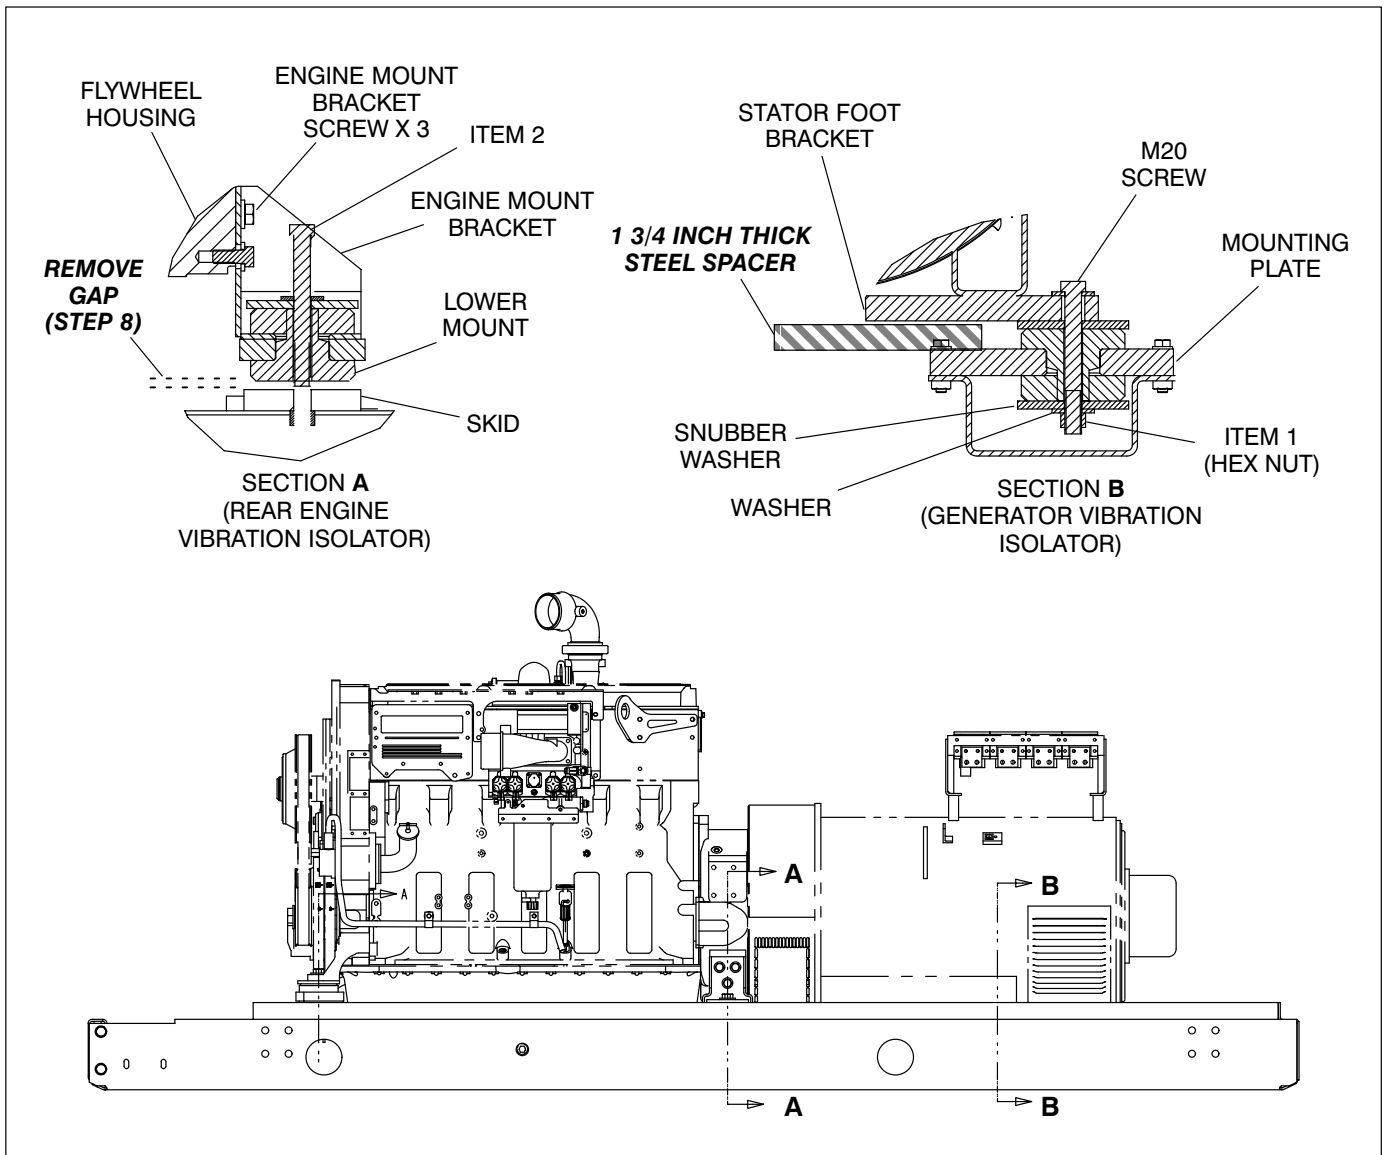

FIGURE 4-10. GENERATOR MOUNT PRE-LOAD ADJUSTMENT
27. Remove the M20 fastener from the two generator mounting feet brackets (Figure 4-10).
- Loosening of hardware that secures engine mount bracket(s) to flywheel housing (see Figure 4-10).
3. Unscrew bolt (Item 2 in Figure 4-10) from skid but do not remove the bolt from either rear engine vibration isolator.
8. Make sure that no gap is present between the skid and the lower mount of the rear engine vibration isolators (see Figure 4-10). While pushing down on the engine mount bracket, tighten the three screws to secure the bracket to the engine. Tighten the three screws to 190-200 ft-lbs. (260-270 N-m) torque.